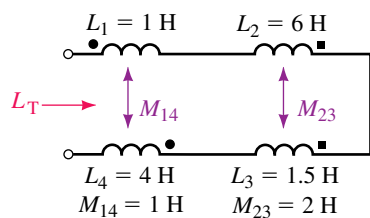

FIGURE 24-77
35. For Figure 24-77, determine L_T .